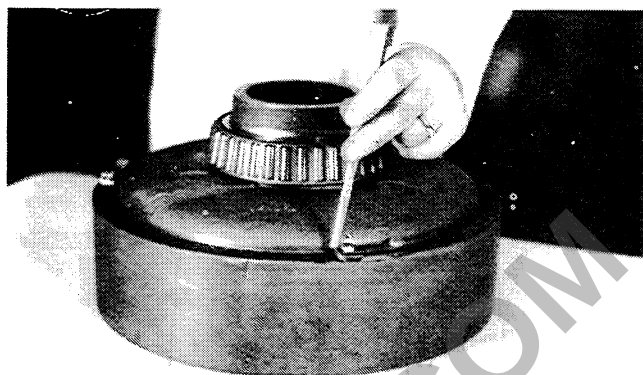
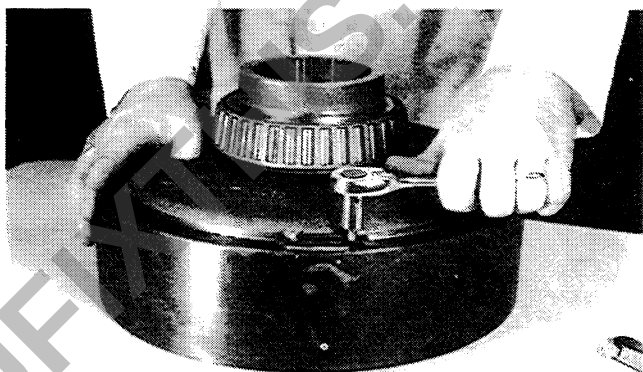
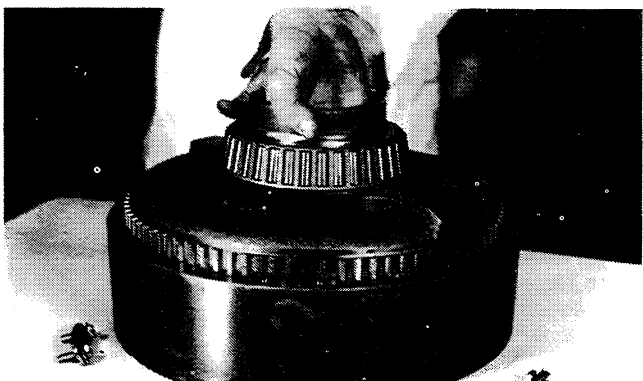

Figure 14:
Figure 15:
Figure 16:
16. Straighten the lock tabs on the internal gear retainers (Fig. 14), and remove the capscrews. Lock tabs and retainers (Fig. 15). Lift the internal gear hub from the internal gear (Fig. 16).